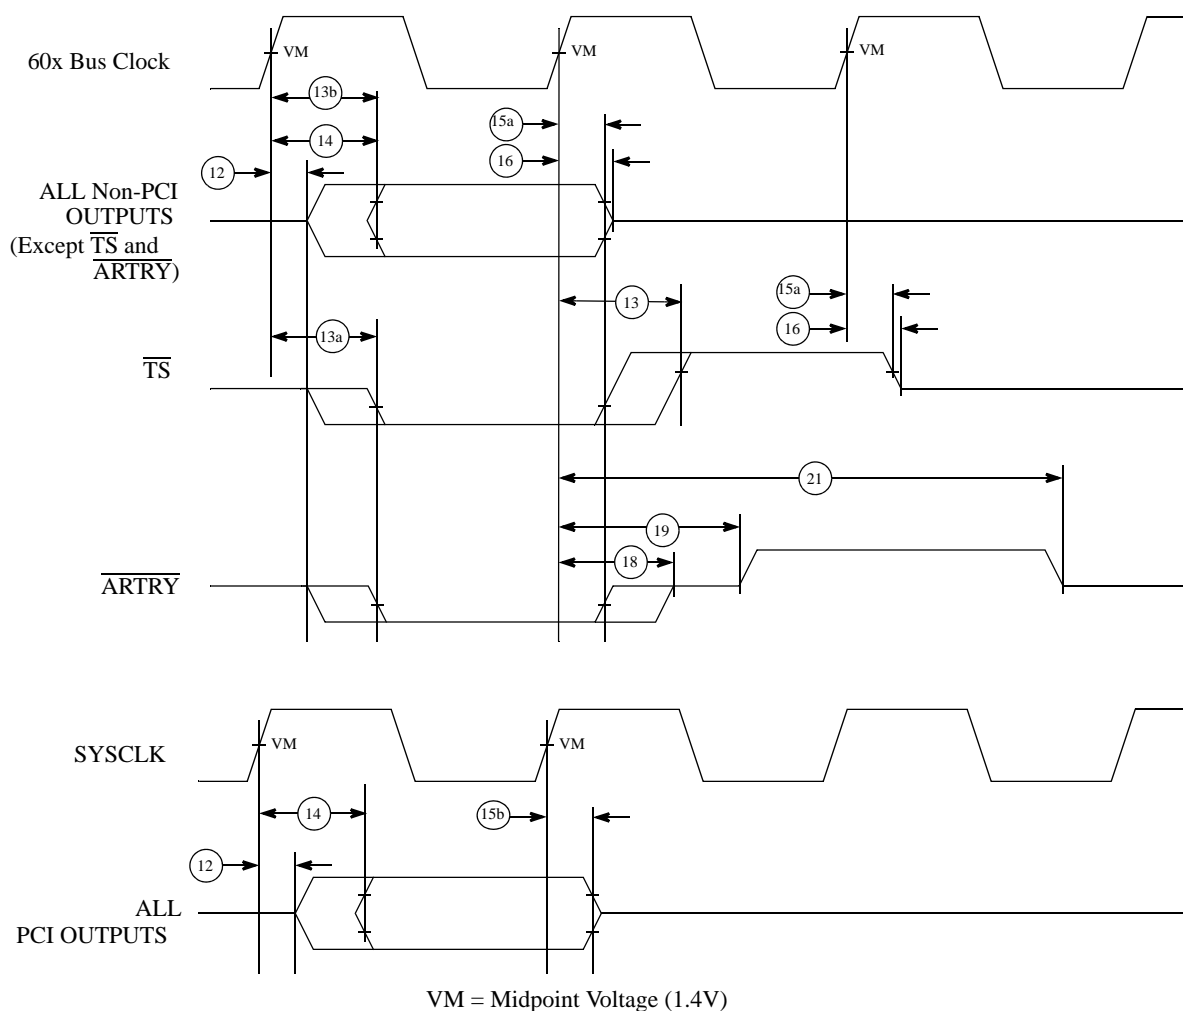

Figure 5. Output Timing Diagram
- ² Output specifications are measured from 1.4 V on the rising edge of the appropriate clock to the TTL level (0.8 V or 2.0 V) of the signal in question. Both input and output timings are measured at the pin (see Figure 5).
Figure 5 provides the output timing diagram for the Tsi106.